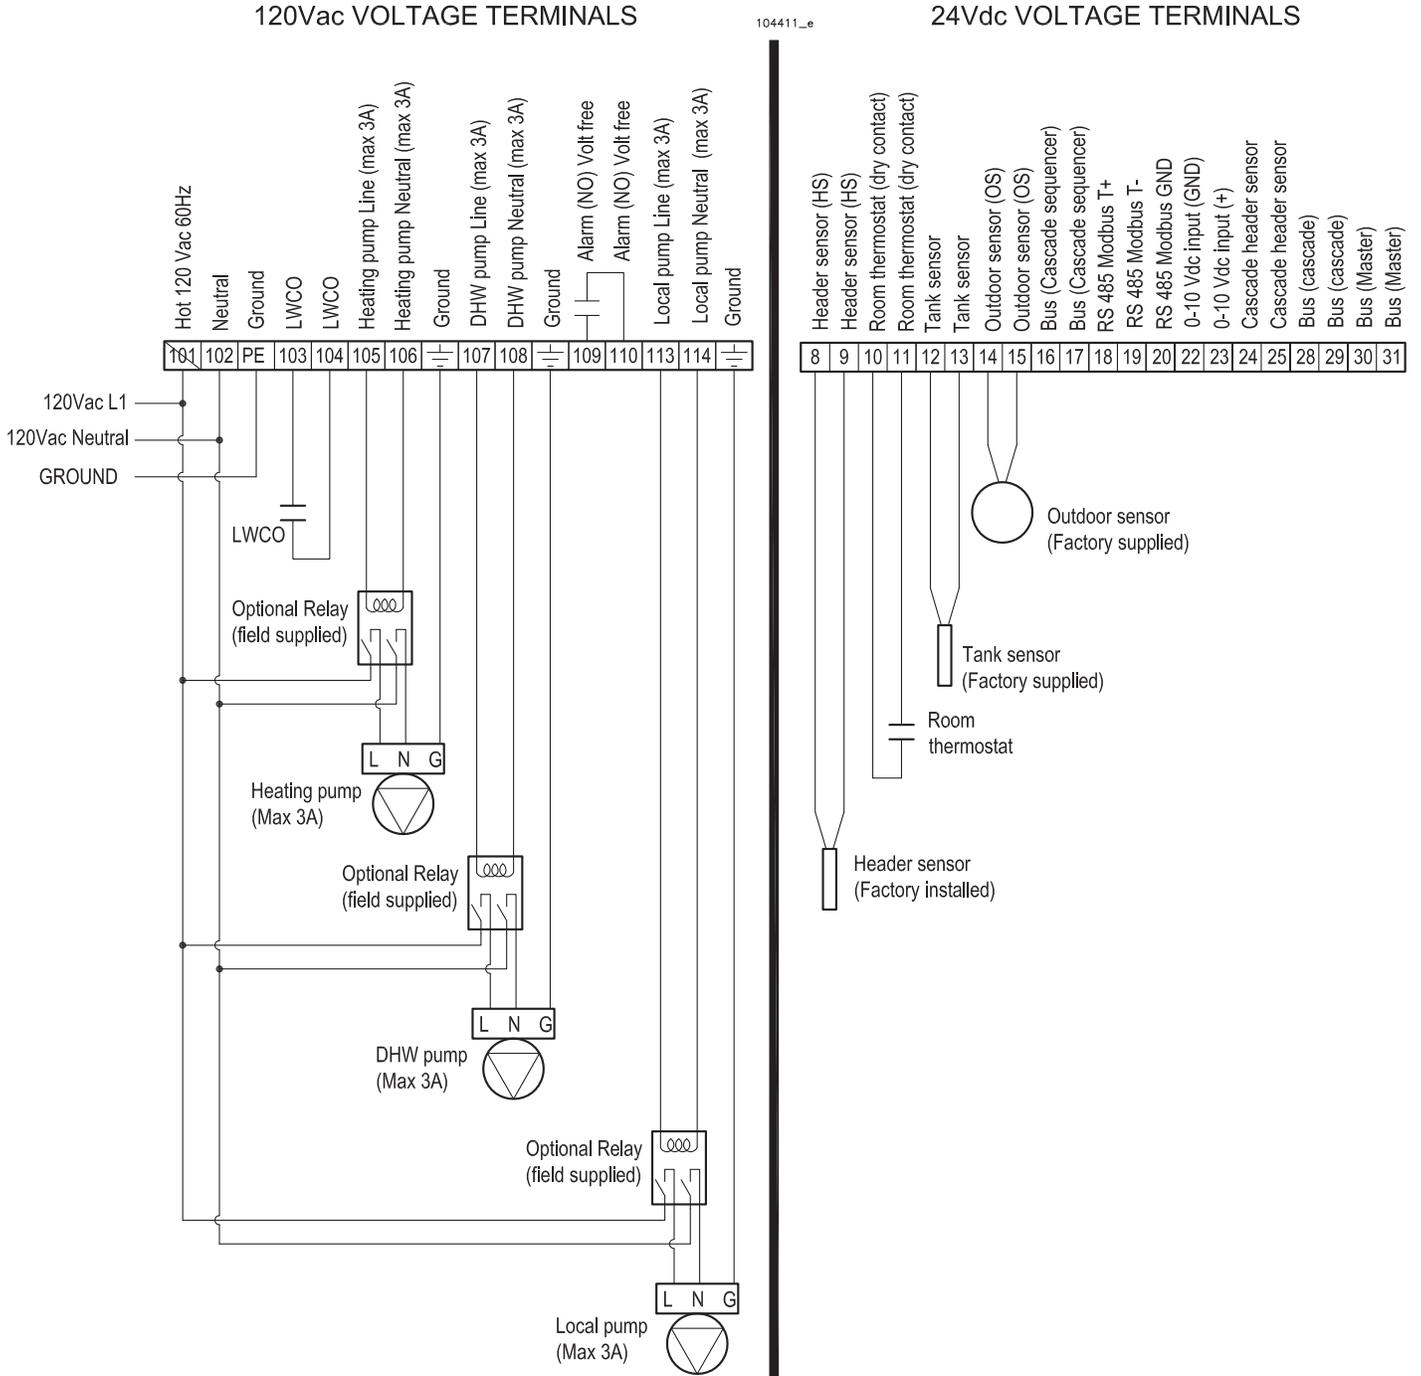

Figure 10-4 Electrical customer connection for AM - B boilers
3. connect the cable leads to the "10" and "11" terminals as shown in Figure 10-4.
or ventilation outlets nor directly under balconies or gutter pipes. Do not shield the outdoor temperature sensor. Do not install the sensor on walls without overhangs, or not protected from rain. Connect the outdoor temperature sensor to the boiler to terminals "14" and "15" (See figure 10-4):
On appliances model 399, 500, 750 and 1000 it is factory supplied the 885IF board that permit installer to drive the unit via a Vcc input (199 model can be equipped on demand). To do this, you have to connect the Vcc supply between terminals 22 and 23 (see Figures 10-4 and 10-5). Also, the CH mode (parameter 2003 as per Section 16.14) must be set to 4 value.
2. The indirect water heater pump (DHW pump) must be connected to terminals “107” and “108” (See Figure 10-4); a field supplied pump relay must be installed if the pump current draw is greater than 3 amps as indicated in Figure 10-4.
3. The indirect water heater temperature sensor (Tank sensor) must be connected to terminals “12” and “13” (See Figure 10-4).